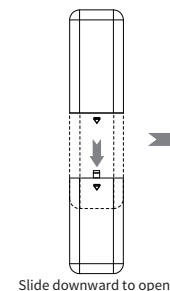

Figure 21
1. Slide open the battery cover on the back of the remote (Figure 21).